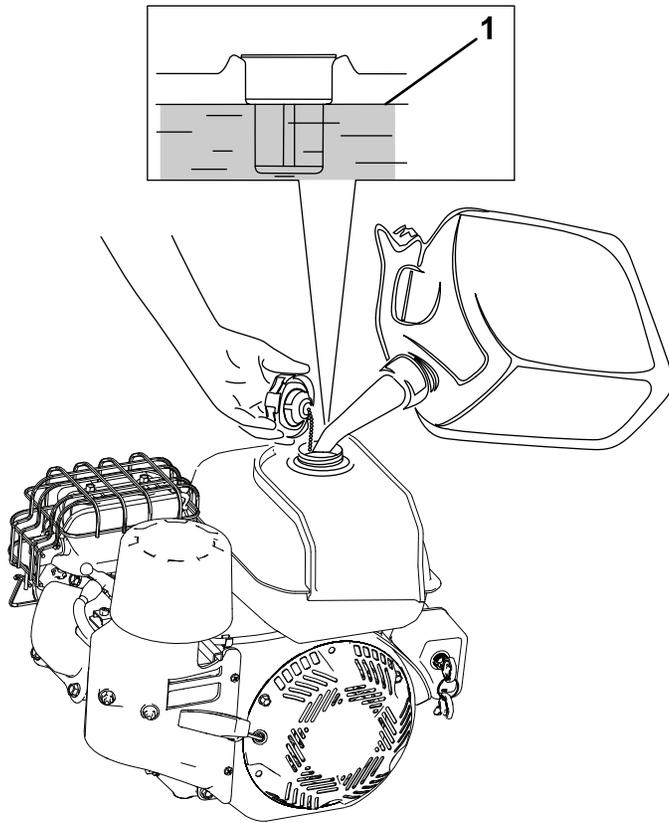

Figure 31
1. Clean around the fuel-tank cap and remove the cap from the tank (Figure 31).